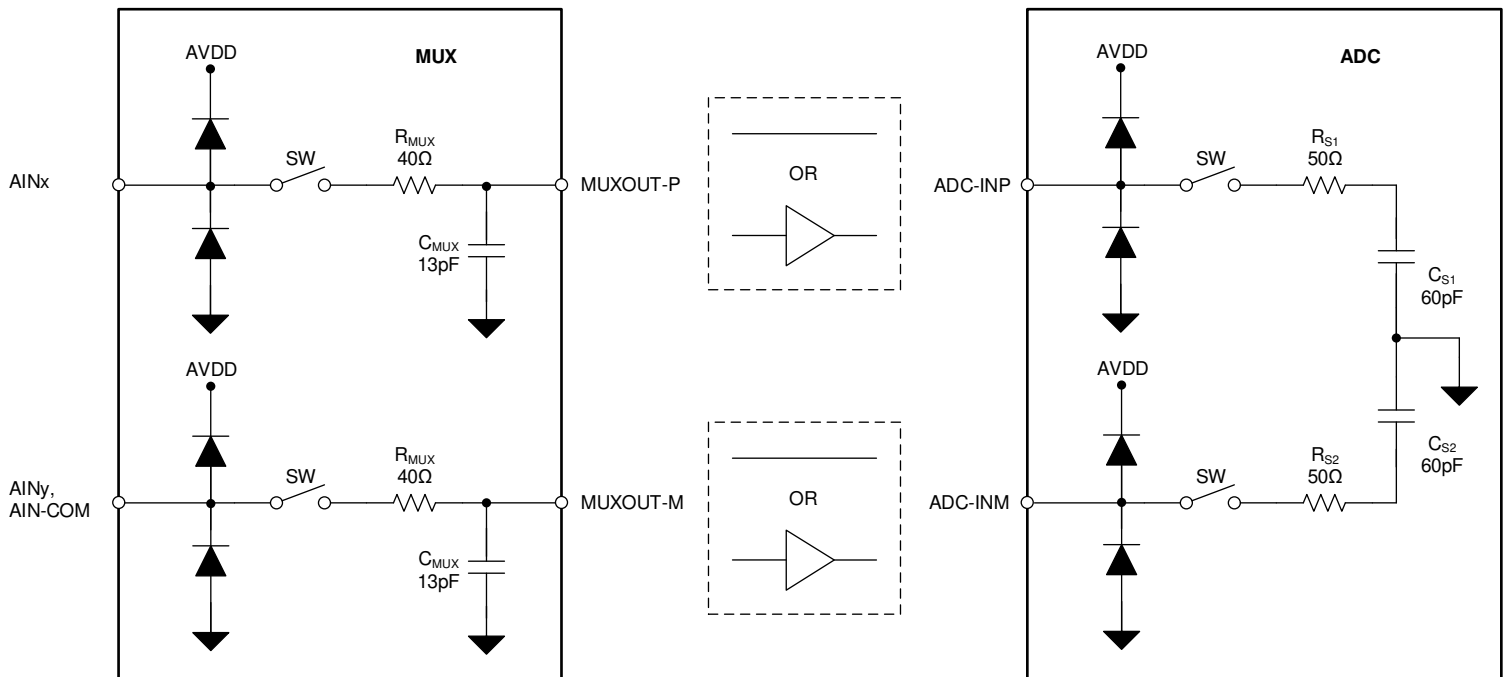

Figure 6-1. Input Sampling Stage Equivalent Circuit
Figure 6-1 shows the small-signal equivalent circuit of the sample-and-hold circuit. Each sampling switch is represented by resistance (R_{S1} and R_{S2} , typically 50Ω) in series with an ideal switch (SW). The sampling capacitors, C_{S1} and C_{S2} , are typically 60pF .